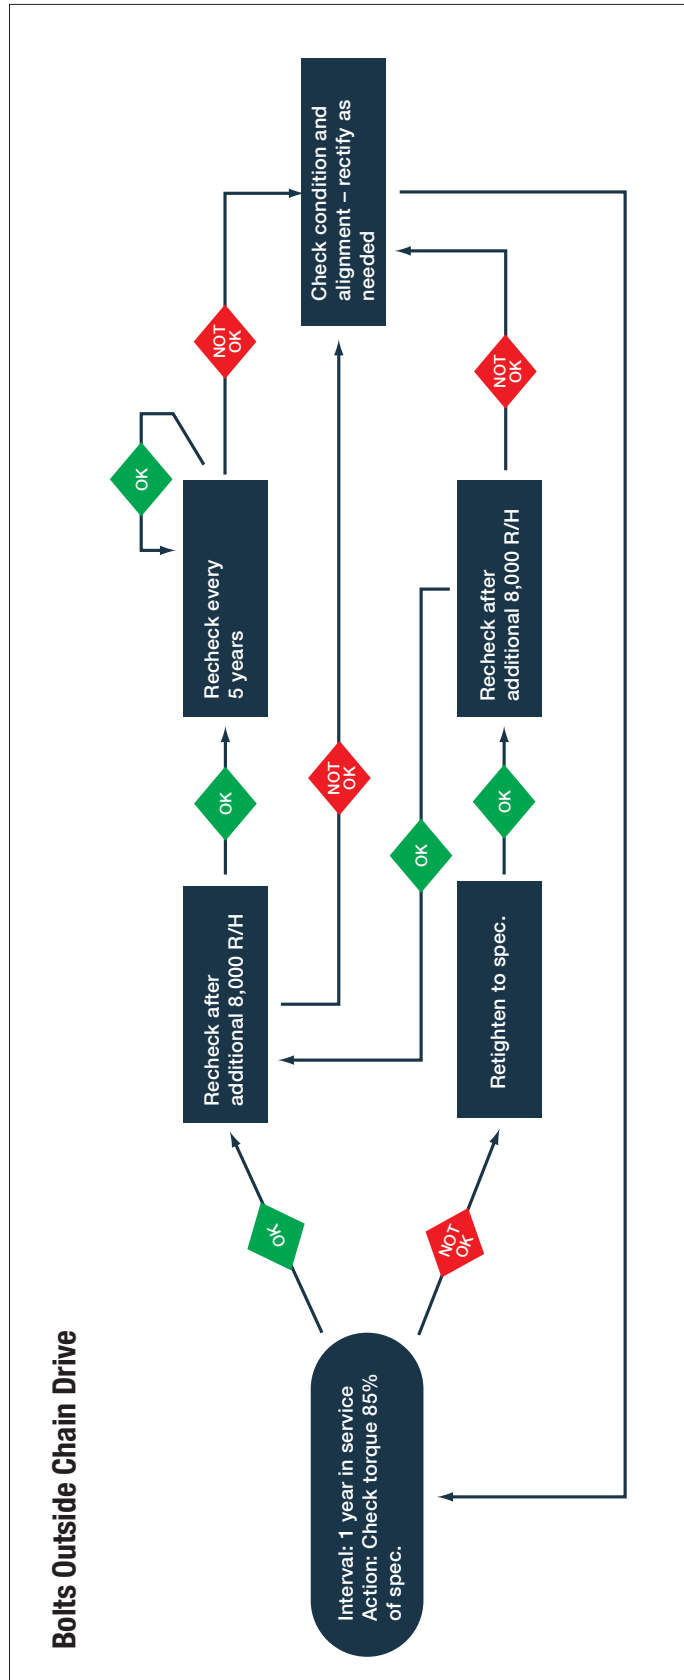

Fig. 3: Inspection scheme for bolts placed outside the chain drive
- Ensure that the consequence diagrams in Figs. 3 and 4 are followed strictly, and record the inspection intervals and findings in the plant maintenance system on board.